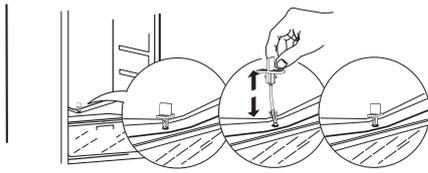

Fig. 1
- compartment (see Fig. 1). Always keep the drain filter inserted into the drain outlet to prevent any blockages caused by dirt.